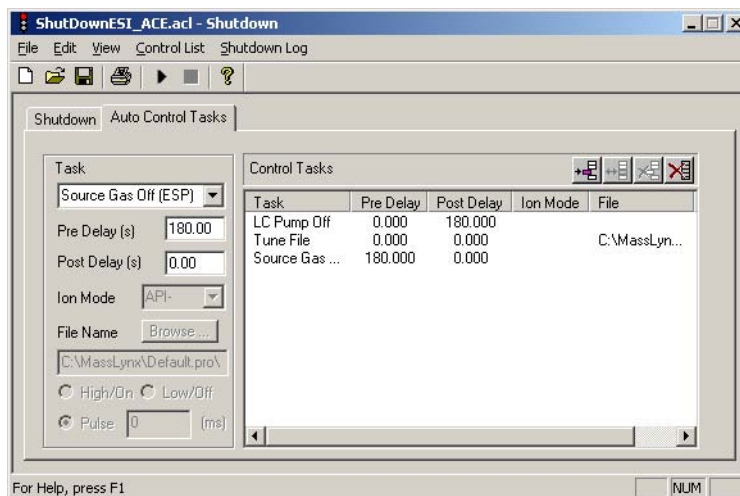

Figure 4-23 Auto Control Tasks
3. Click on the Auto Control Tasks tab to show the user-defined shutdown parameters (Figure 4-23).
4. In Figure 4-23 three separate commands were entered into the control tasks list: